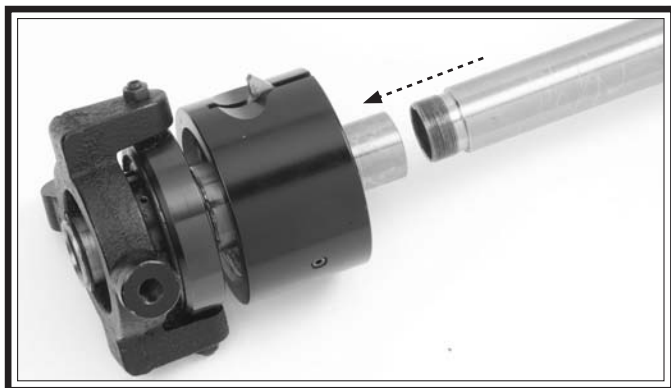

Figure 5. Draw tube installation.
13. Thread the draw tube into the collet attachment assembly, as shown in **Figure 5**.